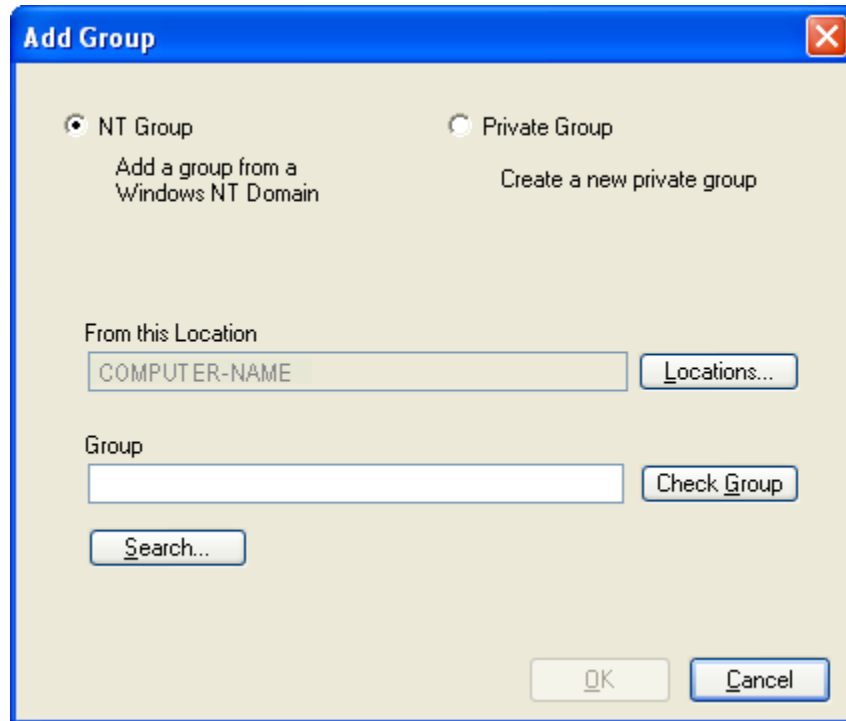

Figure 73 - Add Group Window (NT)
- The **Add Group** window (Figure 73) appears. The **NT Group** option button is selected by default. This will allow the addition of an NT group from a Windows NT Domain.
- The **Add Group** window (Figure 73) appears.